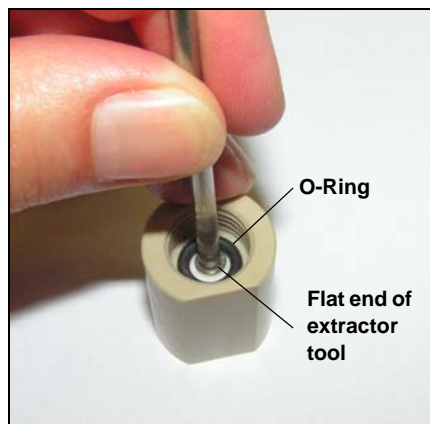

Figure 3. Removing the O-Ring
2. Insert the flat end of the extractor tool into the filter holder (see Figure 3).